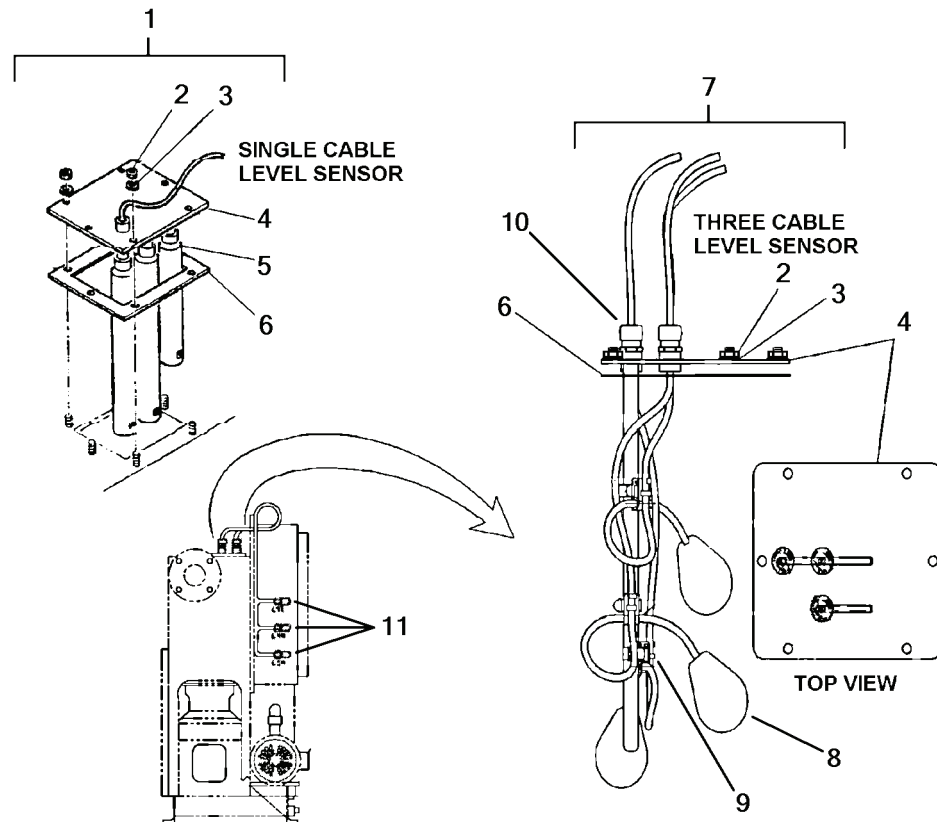

Figure 2-18. Level Sensor Assembly.
**2-17. Level Sensor Assembly. (Figure 2-18)**
**Two different types of Level Sensor Assemblies exist on the MSD. Probes with a single cable design (1, Figure 2-18) and floats with a three cable design (7).**
- (1) Place the mode switch on the control panel assembly in the CONT mode (Paragraph 2-6).
- (2) If the MSD system operates properly in the CONT mode, either the level sensors connections (proceed to step c.) or the microprocessor in the control panel are defective (Paragraph 2-13).
- (1) Turn all electrical power OFF to the sanitary unit.
- (2) Drain and flush the MSD system (Paragraph 2-6).
- (3) Remove the Level Sensor Assembly utilizing removal steps in this task.
- (4) Check the level sensor assembly for cracks, breaks, or other damage. Check gasket for damage and wear. Replace the level sensor assembly if damaged.
**The single cable level sensor (1, Figure 2-18) is obsolete. Service is only applicable to the probes with a single cable design. If after servicing the probes does not correct the problem, replacement of the level sensor assembly is required utilizing the new Retro Fit kit.**
To remove the level sensor assembly, see Figure 2-18 and proceed as follows:
- d. Check for continuity of each float (8) using a multimeter and raising and lowering the float. Verify the contact open and closes for each float to determine the appropriate float that needs to be replaced.
- e. Loosen the appropriate conduit lock nut(s) (11, Figure 2-18) located on the side of the control panel and remove cable(s) for the appropriate float (8) by pulling.
- f. Loosen the conduit locknut (10) on the level sensor assembly cover (4), remove cable clamp (9) from float (8) and retain.
To replace the level sensor assembly, see Figure 2-18 and proceed as follows:
- a. Install new float by threading cable through conduit locknut (10) and thread the running end of the cable through the appropriate conduit locknut (11) on the control panel and connect the float (8) to the clamp (9).
- b. Tighten conduit locknuts (10 and 11, Figure 2-18).
- d. Install cover (4) and gasket (6) with six nuts (2) and six washers (3) to the tank top cover (Figure 2-18).